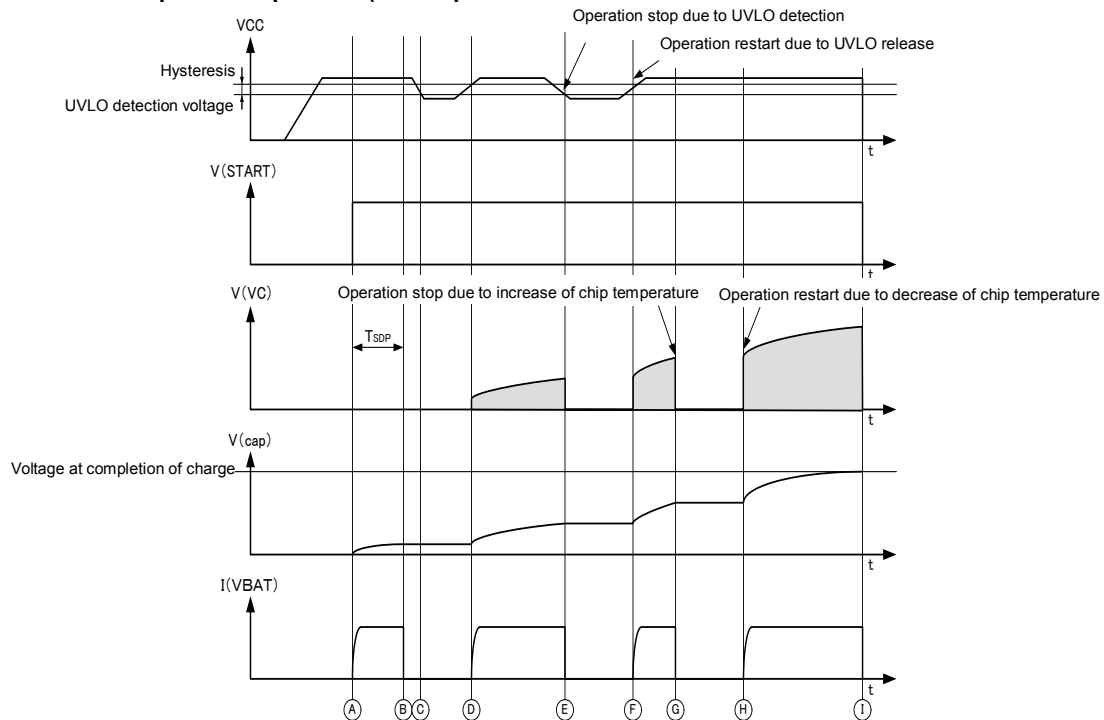

Fig 33. Timing Chart 3: Under Protective Circuit Operation
- ③ The protective circuit is activated (See Fig 33 and the Protective Circuit.).
If the VCC voltage is reduced to the UVLO detection voltage specified in the electrical characteristics or less, the UVLO protective circuit is activated and the charging operation temporarily stops. (See Time ㉔ and ㉕ in Fig 33.) After that, when the VCC voltage becomes the UVLO release voltage or more, the charging operation automatically restarts. (See Time ㉖ and ㉗ in Fig 33.)
It protects the IC against thermal runaway due to excessive temperature rise ($T_j > 175^\circ\text{C}$ [TYP]). After detection, the charging operation temporarily stops (See time ㉘ in Fig 33.), and when the chip temperature decreases, ($T_j < 150^\circ\text{C}$ [TYP]), it automatically restarts. (See Time ㉙ in Fig 33.)
If the VC pin becomes the GND level due to any failure and the PowerTr repeats switching 2^{16} (=65536) times which is the SDP count number (TSDP) at the maximum OFF time, it is judged as an error and the charging operation is forced to be stopped. (See Time ㉚ in Fig 33.) If the START pin is changed from "L" to "H" and the UVLO detection is released, it restarts.